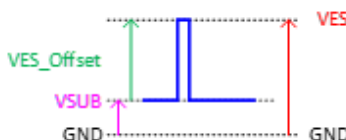

Figure 18. VSUB and VES Reference
8. Figure 18 shows the DC bias (VSUB) and AC clock (VES) applied to the SUB pin. Both the DC bias and AC clock are referenced to ground. The VES_Offset is referenced to VSUB.